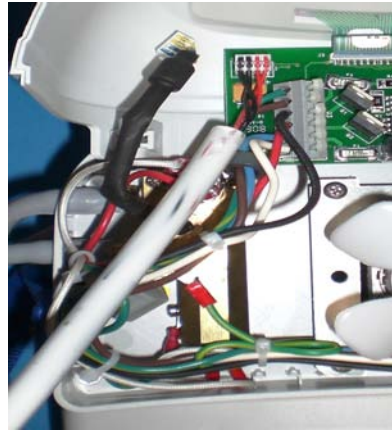

Figure 10: Connection of Test Temperature Sensor
1. To perform this test you will need to open the tray assembly (Refer to section DISASSEMBLY/REASSEMBLY) to install the Test probe, as shown in figure 10.